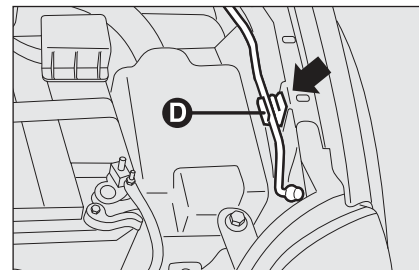
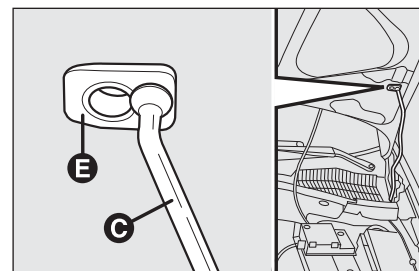

fig. 91
fig. 92
- lift the bonnet and at the same time release the support prop from its locking device **D-fig. 91**, then insert the end **C-fig. 92** into hole **E** on the bonnet.
- hold the bonnet up with one hand and with the other remove support rod **C-fig. 92** from hole **E** and fit it back into its catch **D-fig. 91**;